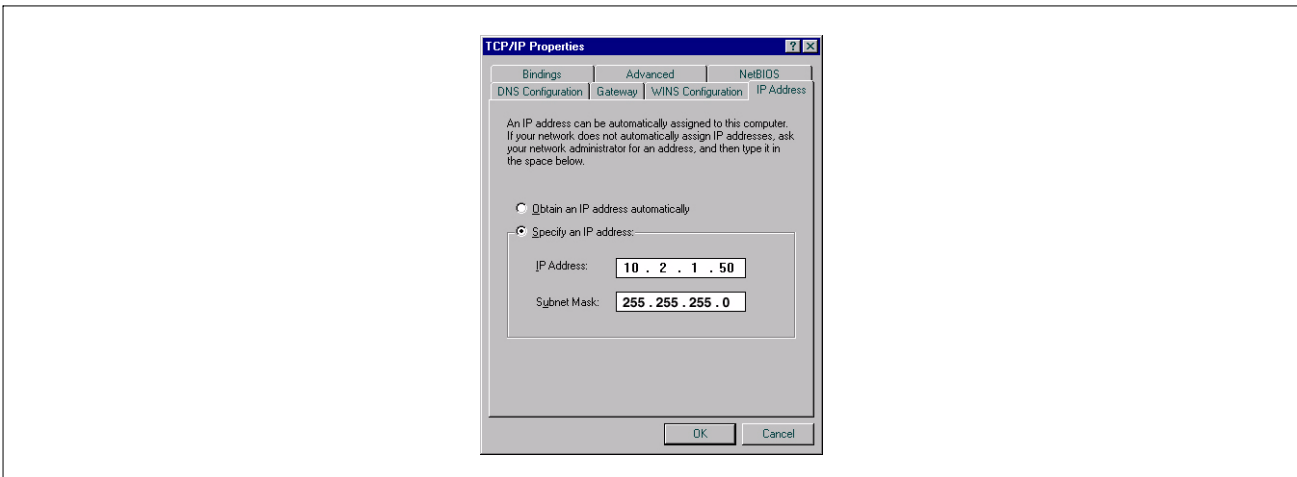

Figure 11. TCP/IP Properties dialog box
2. In the 'The following network components are installed' window, highlight **TCP/IP** and then click the **Properties** button to display the TCP/IP Properties dialog box (Figure 11).
3. Click the **Use the following IP Address** radio button and enter an IP Address and Subnet mask for your laptop. You can use an IP address that is one digit off from the customer supplied IP Address you will assign to the console's TCP/IP Interface Module. For example, if the IP Address for the TCP/IP module is 10.2.1.51, you would enter 10.2.1.50 for the laptop's IP Address. You also need to enter a Subnet mask. Use the same Subnet mask that is shown in Figure 11 above (255.255.255.0).
Note: Prior to reconnecting your laptop to a network, you will need to select the **Obtain an IP address automatically** radio button as shown in Figure 11 above.